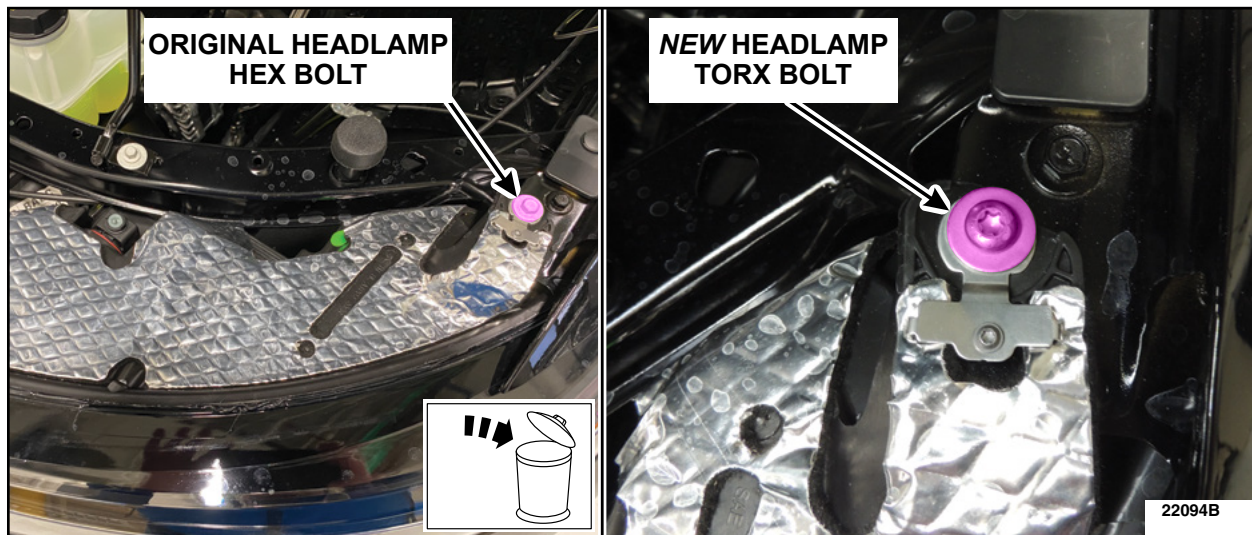

FIGURE 2
7. On both sides, remove and discard the original headlamp bolt. Install the *new* headlamp bolt. See figure 2.